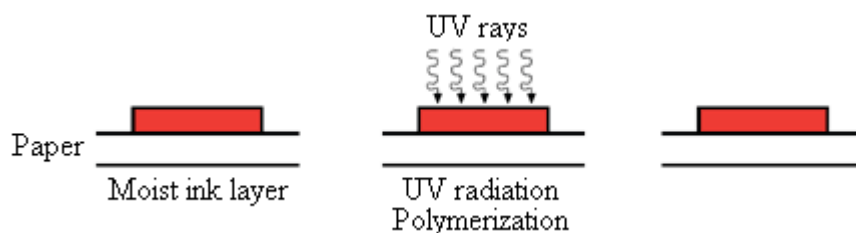

Fig. 16: Process of drying inks by ultraviolet radiation.
- ▶ Drying by **ultraviolet**. The ink is applied and ultraviolet radiation quickly carries out the drying, leaving the ink set in tenths of a second (fig. 16). This is used mainly on **cardboard**.